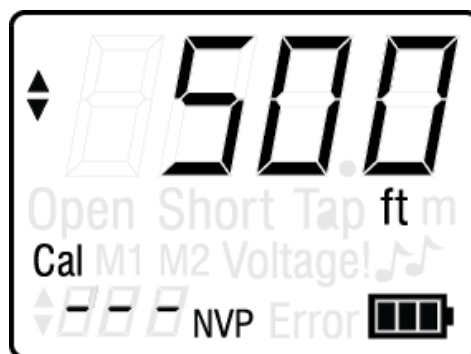

Figure 5. LCD Display Screen in Calibration Mode
3. Press the CAL button. The LCD display screen, illustrated in Figure 5 below, shows the following upon entering Calibration Mode: